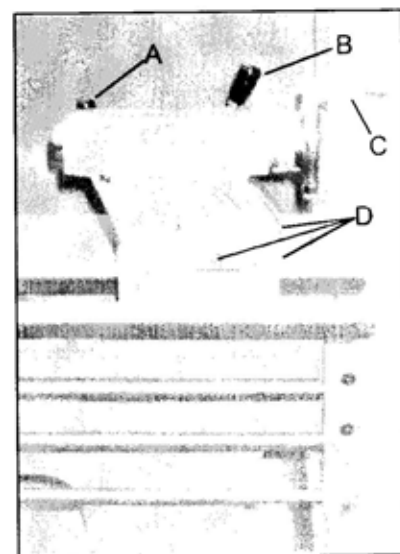

Fig. 15
16. **Tailstock Quill Clamping Lever (A, Fig. 15)** – located on the tailstock. Lift up to lock the spindle. Push down to unlock.
17. **Tailstock Clamping Lever (B, Fig. 15)** – located on the tailstock. Lift up lever to lock. Push down lever to unlock.
18. **Tailstock Quill Traverse Handwheel (C, Fig. 15)** – located on the tailstock. Rotate clockwise to advance the quill. Rotate counter-clockwise to retract the quill.
19. **Tailstock Off-Set Adjustment (D, Fig. 15)** – three set screws located on the tailstock base are used to off-set the tailstock for cutting tapers. Loosen lock screw on tailstock end. Adjust side screws until amount of offset is indicated on scale. Tighten lock screw.